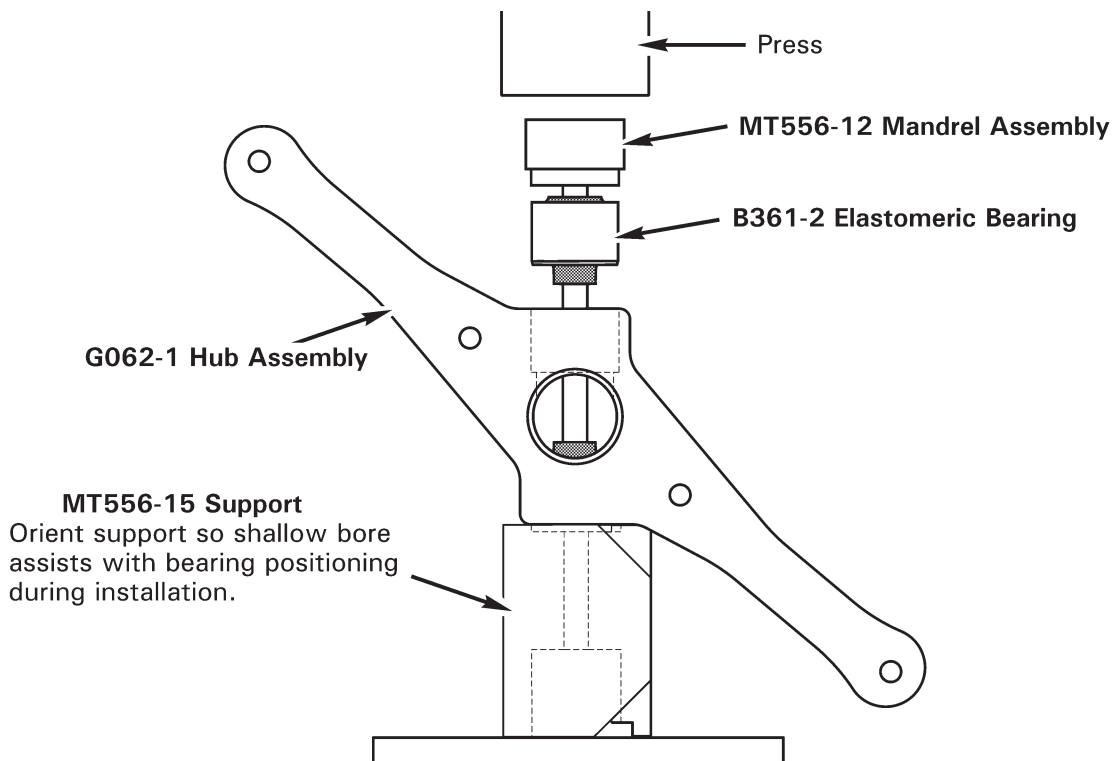

FIGURE 64-7 ELASTOMERIC BEARING INSTALLATION
2. Refer to Figure 64-7. Using Q-tip, apply light coat of approved primer per § 20-70 to bottom of hub bearing bore. Apply a thin line of primer to center of bearing outside diameter. While primer is wet, press bearing into hub using MT556-11 bearing removal and installation tools. Wipe away excess primer.